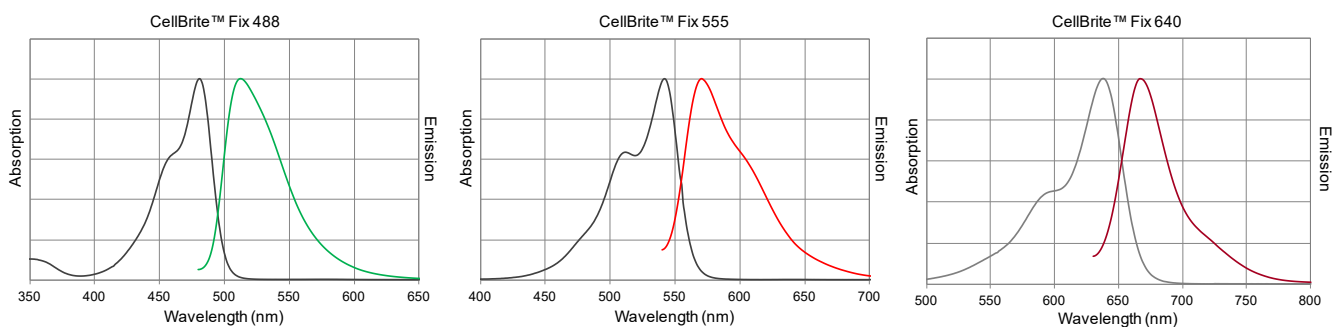

Figure 1. Normalized absorption and emission spectra of CellBrite™ Fix dyes in water.
*See Figure 1.
CellBrite™ Fix 488 has green fluorescence, CellBrite™ Fix 555 has visible red fluorescence, and CellBrite™ Fix 640 has far-red fluorescence (see Figure 1).